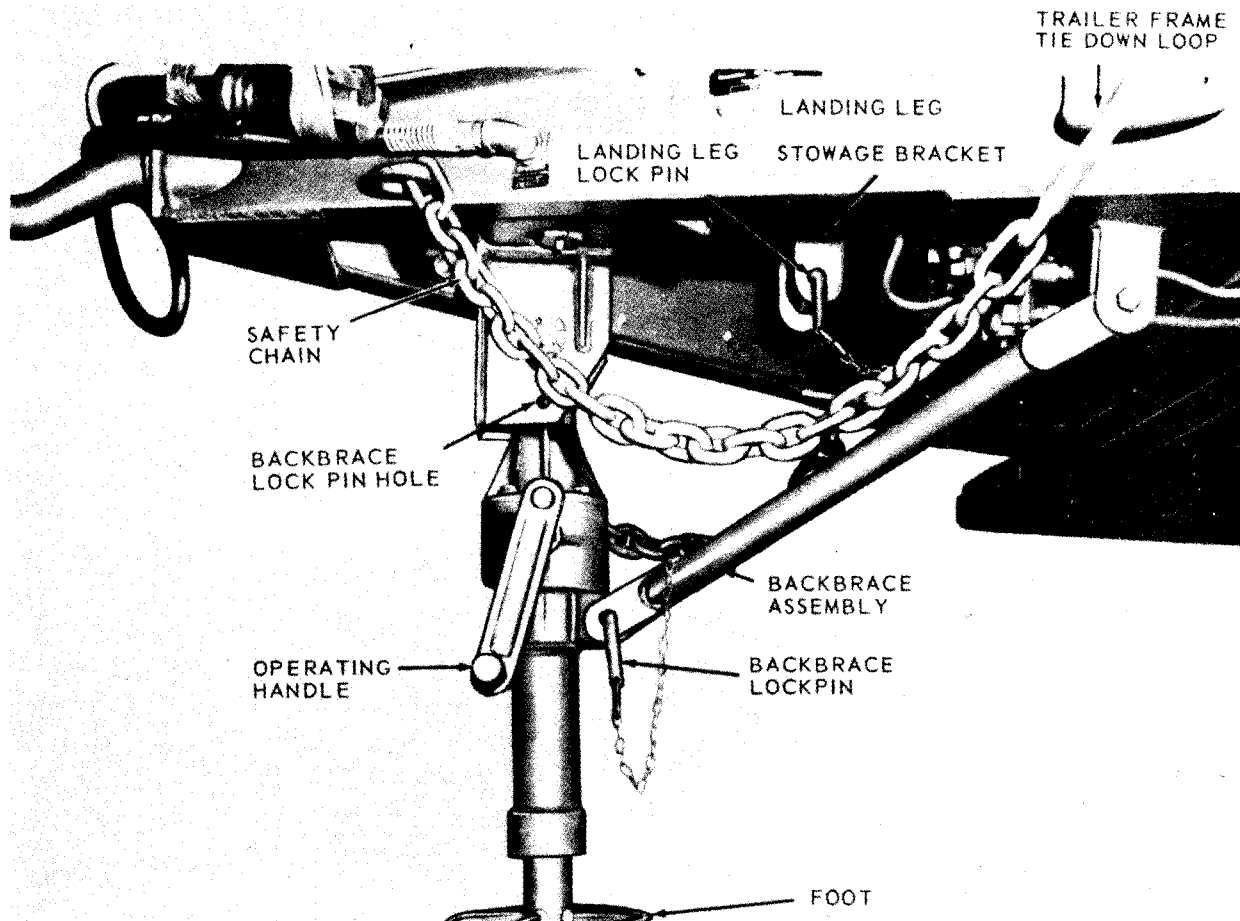

Figure 2-1. Generator trailer, front landing leg assembly (PU-407/M, PU-699/M).
(1) Site generator trailer as described in a above.
(2) Unhook safety chains from towing vehicle and hook chains on trailer frame tiedown loops (fig. 2-1) .
(3) Close shutoff valves on service and emergency air lines at rear of towing vehicle. Uncouple inter vehicular lines from towing vehicle and fit the vehicle protective dummy couplings to vehicle air couplings. Fit the inter vehicular lines to dummy couplings on trailer frame.
(4) Remove connector of intervehicular 24-volt cable from towing vehicular receptacle and place it on trailer frame.
(5) Withdraw back brace lockpin (fig. 2-1) from back brace lockpin hole, and lower back brace assembly. Remove landing leg lockpin from landing leg storage bracket; lower landing leg to vertical position, and replace landing leg lockpin. Swing back brace assembly forward, aline lockpin holes of landing leg and back brace, and lock in place with the back brace lockpin. Rotate landing leg operating handle to extend landing leg inner tube and foot to the ground until trailer chassis weight is removed from pintle of towing vehicle. The height of trailer chassis lunette should be sufficient to allow for uncoupling from the towing vehicle.
(6) Remove lockpins holding rear landing legs in place. Drop legs to vertical position and replace lockpins. Unscrew inner tubes of rear landing legs until foot touches ground,
(7) Set trailer chassis handbrakes, unlatch towing vehicle pintle and drive vehicle forward and away from trailer chassis.
(8) Adjust length of front and rear landing leg assemblies until trailer chassis is level.